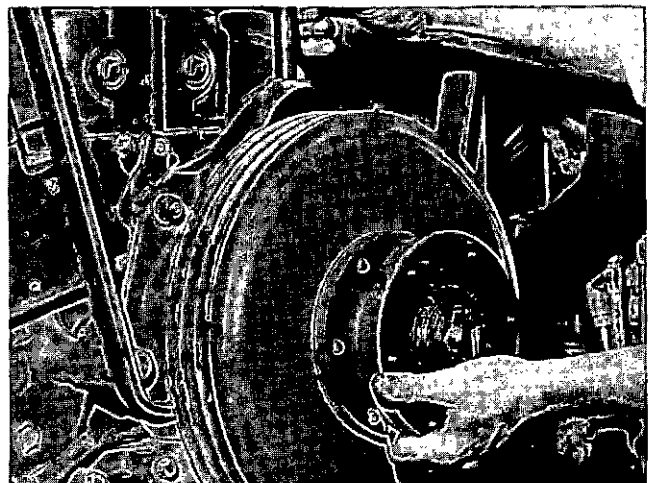

Fig. 0-6, V40038. Loosening fan hub adjusting screw
3. Loosen adjusting screw, Fig. 0-6. Disengage and remove belts.